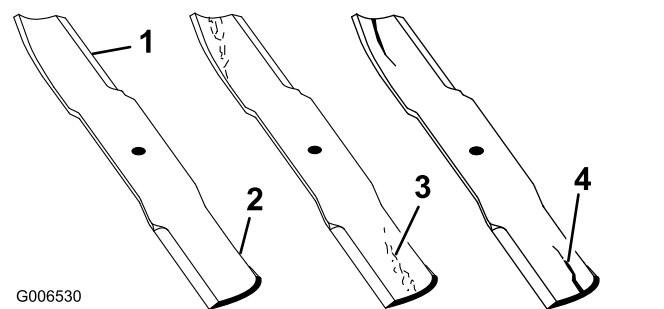

Figure 98
- Inspect the cutting edges (Figure 98).
- If you notice any cracks, wear, or a slot forming in this area, immediately install a new blade (Figure 98).